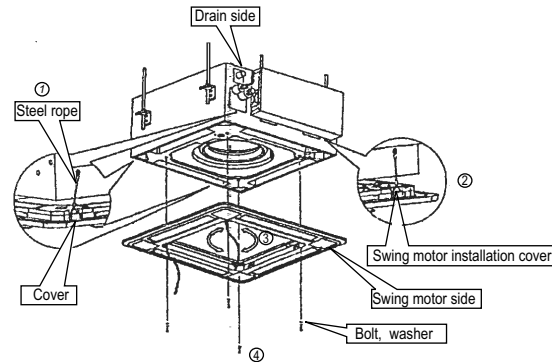

Fig.23
- a. Align the swing motor on the panel to the water receiver of the body properly. (Refer to Fig.23)
- b. Hang the four fixed rope of the main body to the installation cover and the other three covers of the swing motor: (Refer to Fig.23 )
- c. Install the panel on the main body with bolt (M5;16) and washer. (Refer to Fig.23)